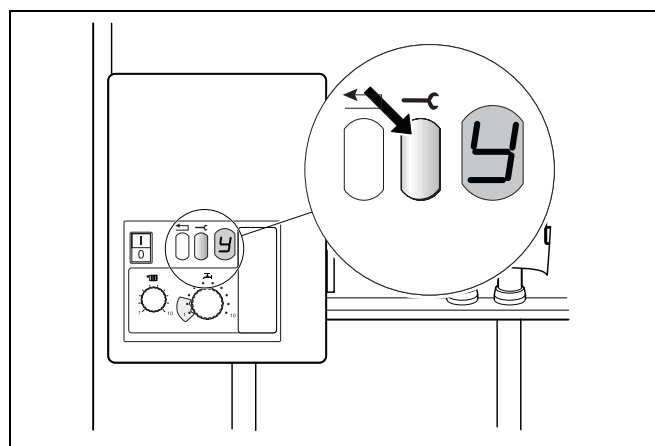

fig. 35 Service button
- When the burner has fired after approx. 30 seconds, press the service button (fig. 35) until "Y" is shown on the display.
- Press the service button (fig. 35) until "Y" is shown on the display.
- After the burner has fired, press the service button (fig. 35) until "Y" is shown on the display.